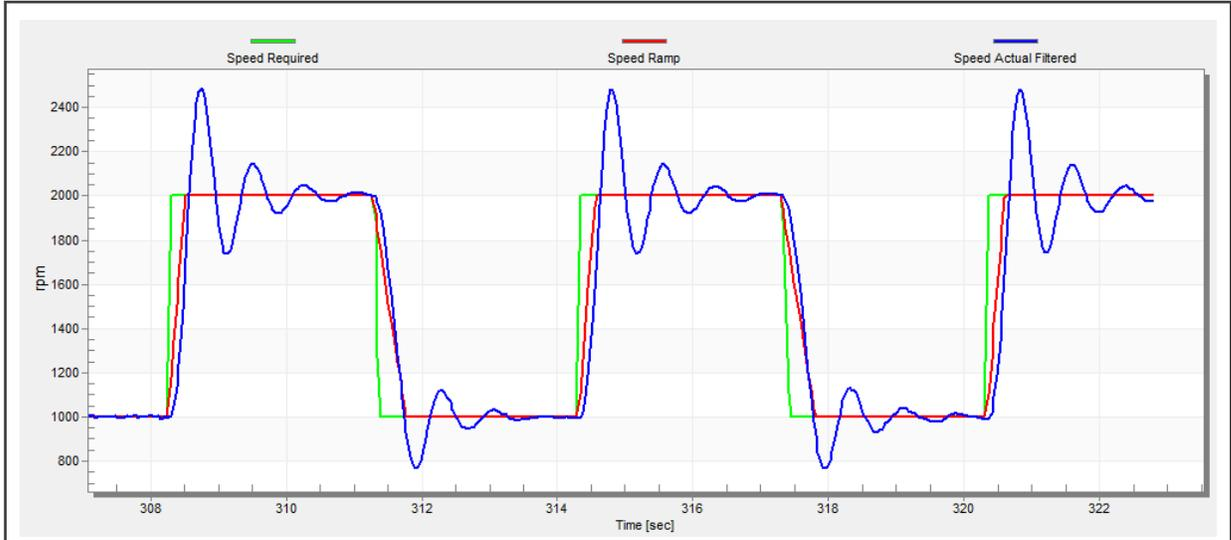

Figure 32. Speed controller response—SL_Kp value is low, Speed Actual Filtered greatly overshoots
- The “SL_Kp” value is low, the “Speed Actual Filtered” greatly overshoots, and the long settling time is unwanted (see Figure 32).